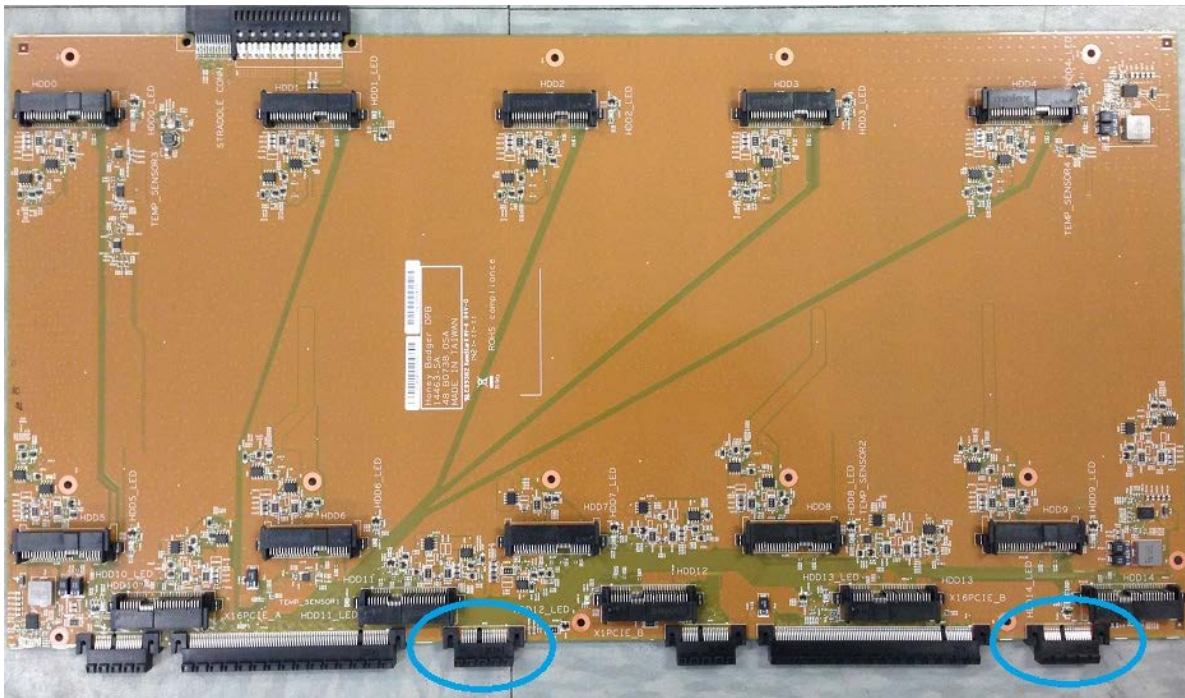

Figure 14 New Honey Badger DPB
- Add one PCI-E x1 connector to provide more power / current, on both A-side and B-side. Circled items in Figure 14.